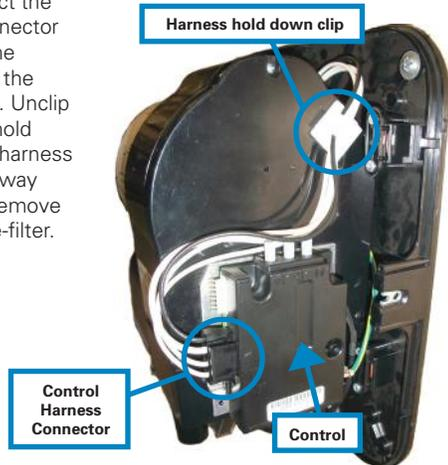

Figure 1
1. Find and disconnect the Control Harness Connector on your dryer from the control by squeezing the tab while unplugging. Unclip harness wires from hold down clip and move harness to the left out of the way for the next steps. Remove and discard dryer Pre-filter. (Figure 1)